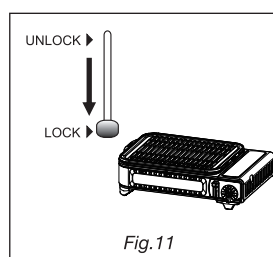

Fig. 11
4. Lock in place by pushing the cartridge lever down to "LOCK" position and then close the cartridge cover. (Fig. 11)